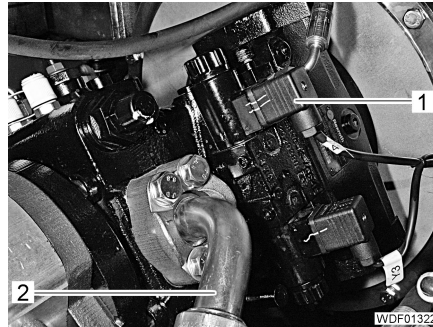

Fig. 99 Variable displacement pump
- Plug the connectors (Fig. 99,1) onto the solenoid valves and secure with 1 screw for each.